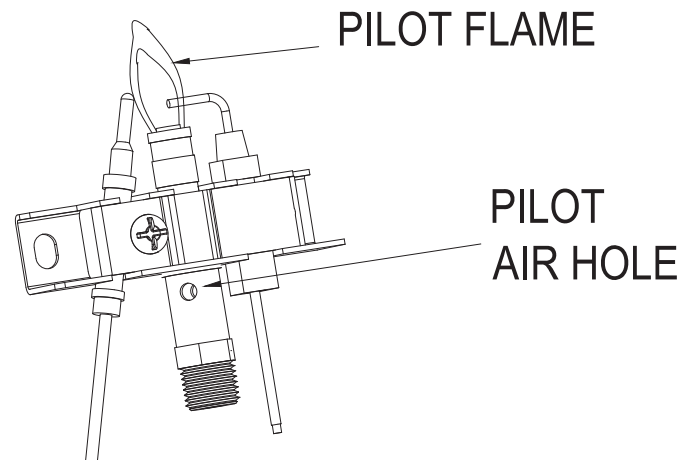

Fig. 4 - Pilot Assembly
Always keep the heater area clear and free from combustible materials, gasoline and other flammable vapors and liquids. Keep the vent areas (slots in the bottom and the top at the front of heater) clear at all times so combustion air and ventilation is not obstructed. Visually inspect the pilot flame and burner periodically during use so combustion air and ventilation is not obstructed. The pilot flame should be blue in color (not yellow) and will extend beyond the thermocouple. The flame will surround the thermocouple just below the tip, see Figure 4. A slight yellow flame may occur where the pilot flame and main burner flame meet. The burner(s) should be bright orange (with a slight blue color around the border, a red-orange haze that is visible on the burner is acceptable) and without a noticeable flame. A blue flame that rolls out at the top indicates an accumulation of dust, lint or spider webs inside the main burner assembly. If the pilot is yellow or the burner has a noticeable flame, cleaning may be required. Use the following procedure to inspect main burner assembly. It is necessary to periodically check the burner(s) orifice and burner venturi tube to make sure they are clear of insects/nests or spider webs that may accumulate over time. It is strongly recommended that these maintenance instructions be performed annually. A clogged tube can lead to a fire.
5. Inspect and clean pilot (mounted to bracket) by using a vacuum or apply air pressure through the holes in the pilot indicated by the arrows in Figure 4.